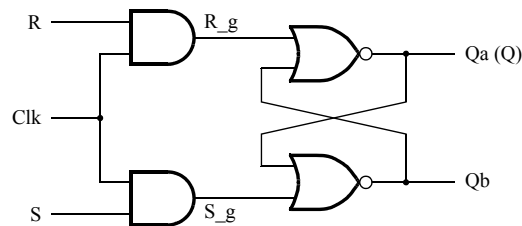

Figure 2: A gated RS latch circuit.
Figure 2 depicts a gated RS latch circuit. Two styles of Verilog code that can be used to describe this circuit are given in Figure 2a and 2b. Part *a* of the figure specifies the latch by instantiating logic gates, and part *b* uses logic expressions to create the same circuit. When this latch is implemented on an FPGA, the specification software will represent the resulting circuit as a 4-input lookup tables (LUTs), which is similar to a dictionary in Python. When you display the LUT that represents these circuits, only one lookup table is needed to represent the behaviour, as shown in Figure 3a.
2. Generate a Verilog file with the code in either part a or b of Figure 2 (both versions of the code should produce the same circuit) and include it in the project.